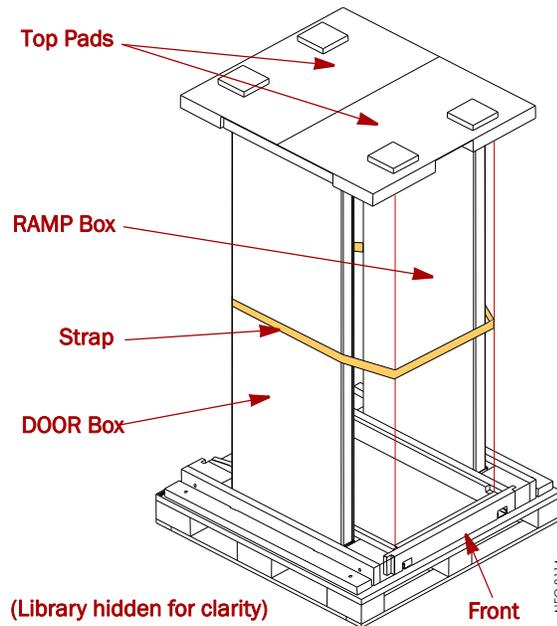

Figure 2-3: RAMP and DOOR Box Locations
- a. Cut the three (3) **shipping straps** and remove.
- b. Remove the six (6) shipping strap **reinforcing corners** from around the box.
- d. Release and remove each of the eight (8) **plastic retainers** (four each on opposite corners).
- e. Remove the two (2) large pieces of **cardboard** surrounding the library.
3. Remove the inner packaging (Figure 2-3).